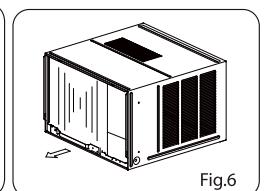

Fig. 6
2. Grasp the handle on the chassis and carefully slide the air conditioner out of the cabinet. (see Fig. 6)
3. Grasp the handle on the chassis and carefully slide the air conditioner out of the cabinet.(see Fig.6)